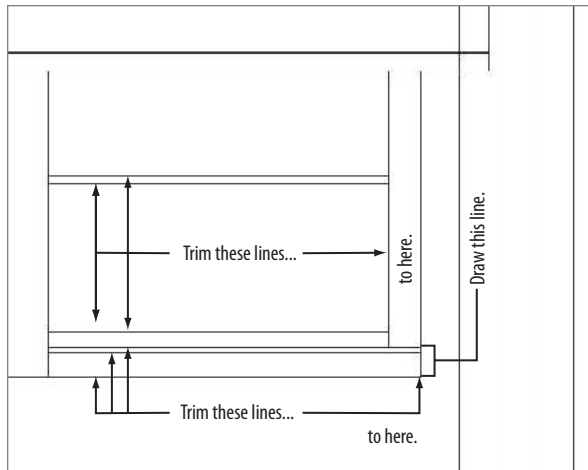

FIGURE 10.21: The deck and post lines after trimming them back to their proper lengths
- c.** Draw a short vertical line from the bottom of the right post line to the lowest horizontal line, as shown in Figure 10.21.